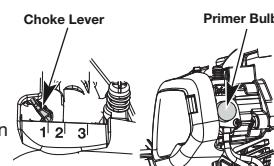

Fig. 5
3. Fully press and release the primer bulb 10 times, slowly. Some amount of fuel should be visible in the primer bulb and fuel lines (Fig. 5). If fuel can not be seen in the bulb, press and release the bulb until fuel is visible.
4. Place the choke lever in **Position 1** (Fig. 5).
6. Place the choke lever in **Position 2** (Fig. 5).
9. Continue squeezing the throttle control, move the choke lever to **Position 3** (Fig. 5) and continue warming the engine for an additional 60 seconds. The unit may be used during this time.
IF... the engine hesitates, return the choke lever to **Position 2** (Fig. 5) and continue warm-up.